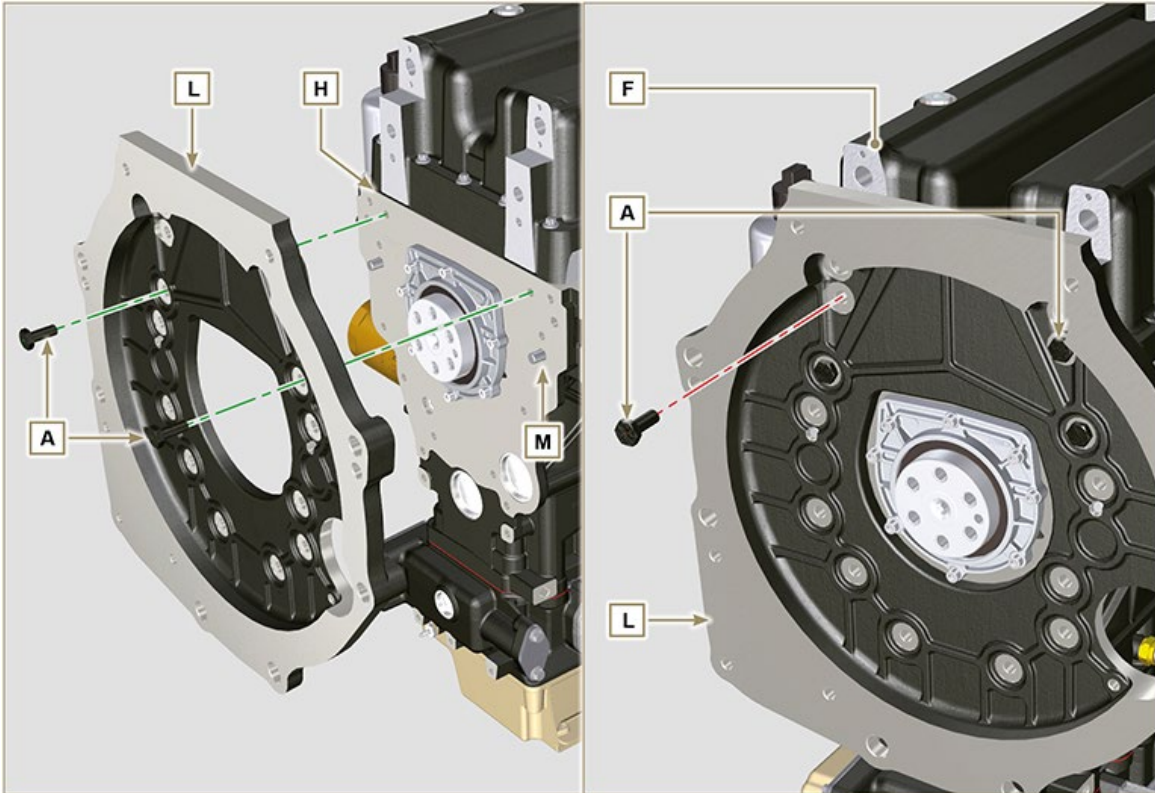

Fig. 11.58
10. Loosen cap screws **A** and remove housing or plate **L** (**Fig. 11.58**).